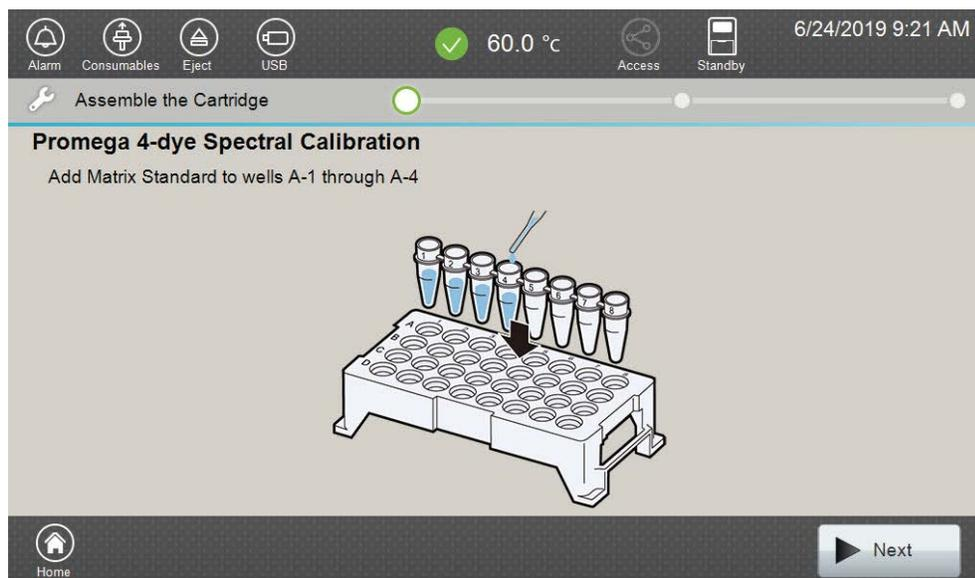

Figure 35. 'Assemble the Cartridge' screen.
4. Use the scroll arrows on the right-hand side of the 'Dye Set List' screen (Figure 34) to find the correct Dye Set/Application Type/Polymer combination from the displayed list. To perform a spectral calibration using the PowerPlex® 4C Matrix Standard on Polymer4, select "Promega 4-dye" with "Fragment" and "Polymer4" as application and polymer types, respectively, then select **Calibration**. The 'Assemble the Cartridge' screen will open (Figure 35).
5. Select **Next** on the 'Assemble the Cartridge' screen (Figure 35). A message window will open indicating that the autosampler is moving and telling the user to not open the door. In addition, the status indicator flashes green while the autosampler is moving. After autosampler movement is complete, the message window closes and the status indicator returns to a steady green.